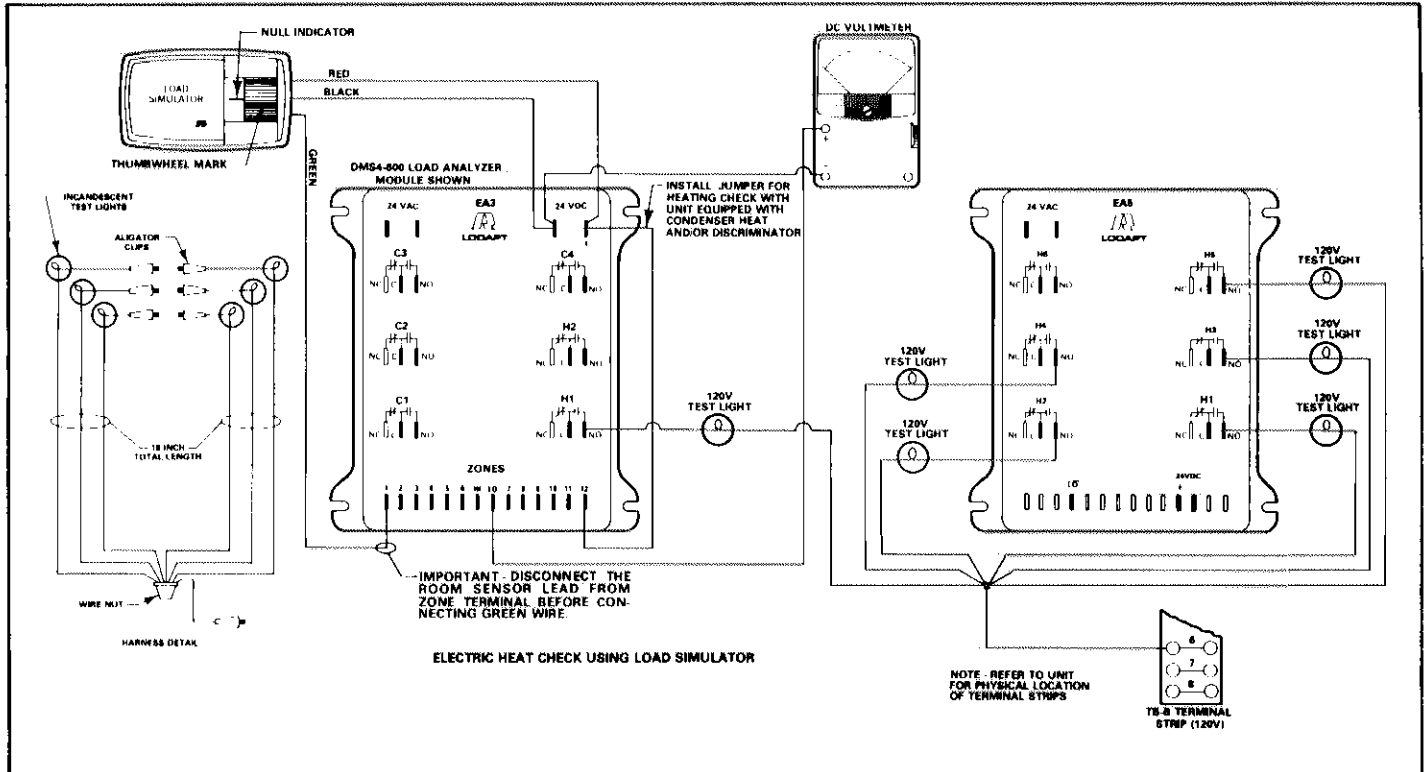

FIGURE 47
- 1 - If the unit is equipped with condenser heat and/or discriminator, install a jumper between the 24 VDC (+) terminal and any zone terminal to provide a cooling demand. See Figure 47.
- 3 - Connect test lights to the heating logic relays and No. 6 terminal of TB-D terminal strip. For ease in installing test lights, we recommend making a harness as shown in Figure 47.